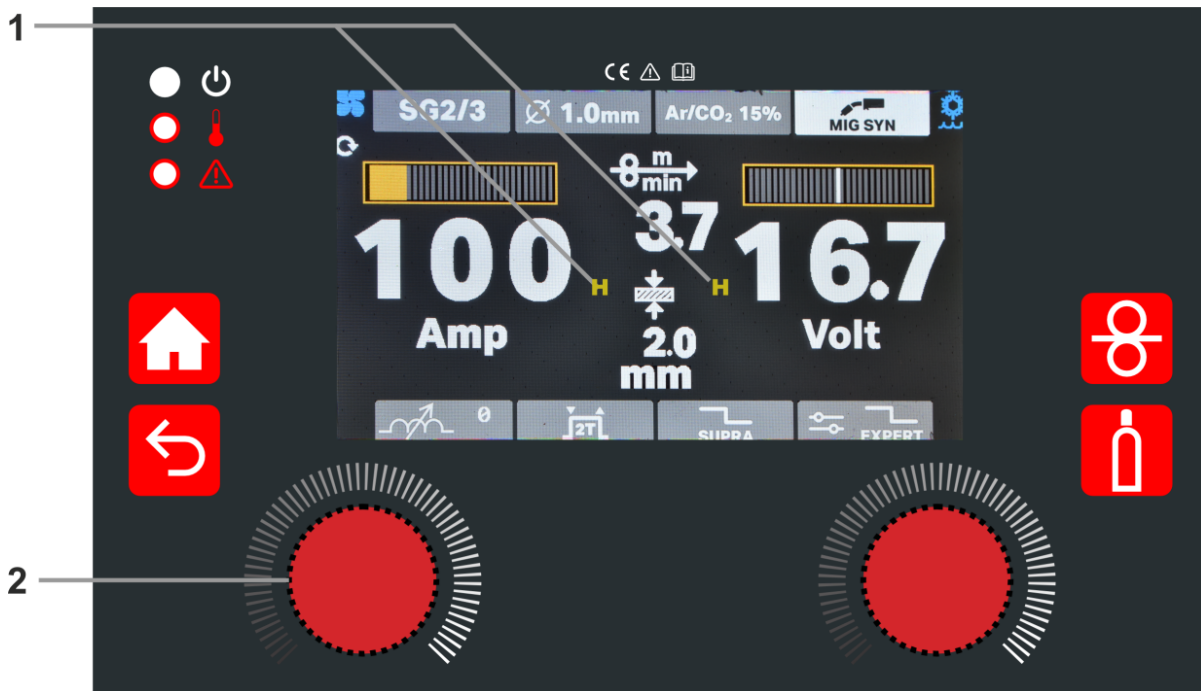

Fig. 17
- To consult the average voltage and welding current values of the last welding or in MIG SYN mode, of the last welding for the chosen synergy, press one time the left side encoder (2 – Fig. 17), then turn the same encoder until menu item 1 (Fig. 17) turns yellow, and then press again. The LCD displays the last average values. To exit the HOLD function press the left side encoder (2 – Fig. 17).